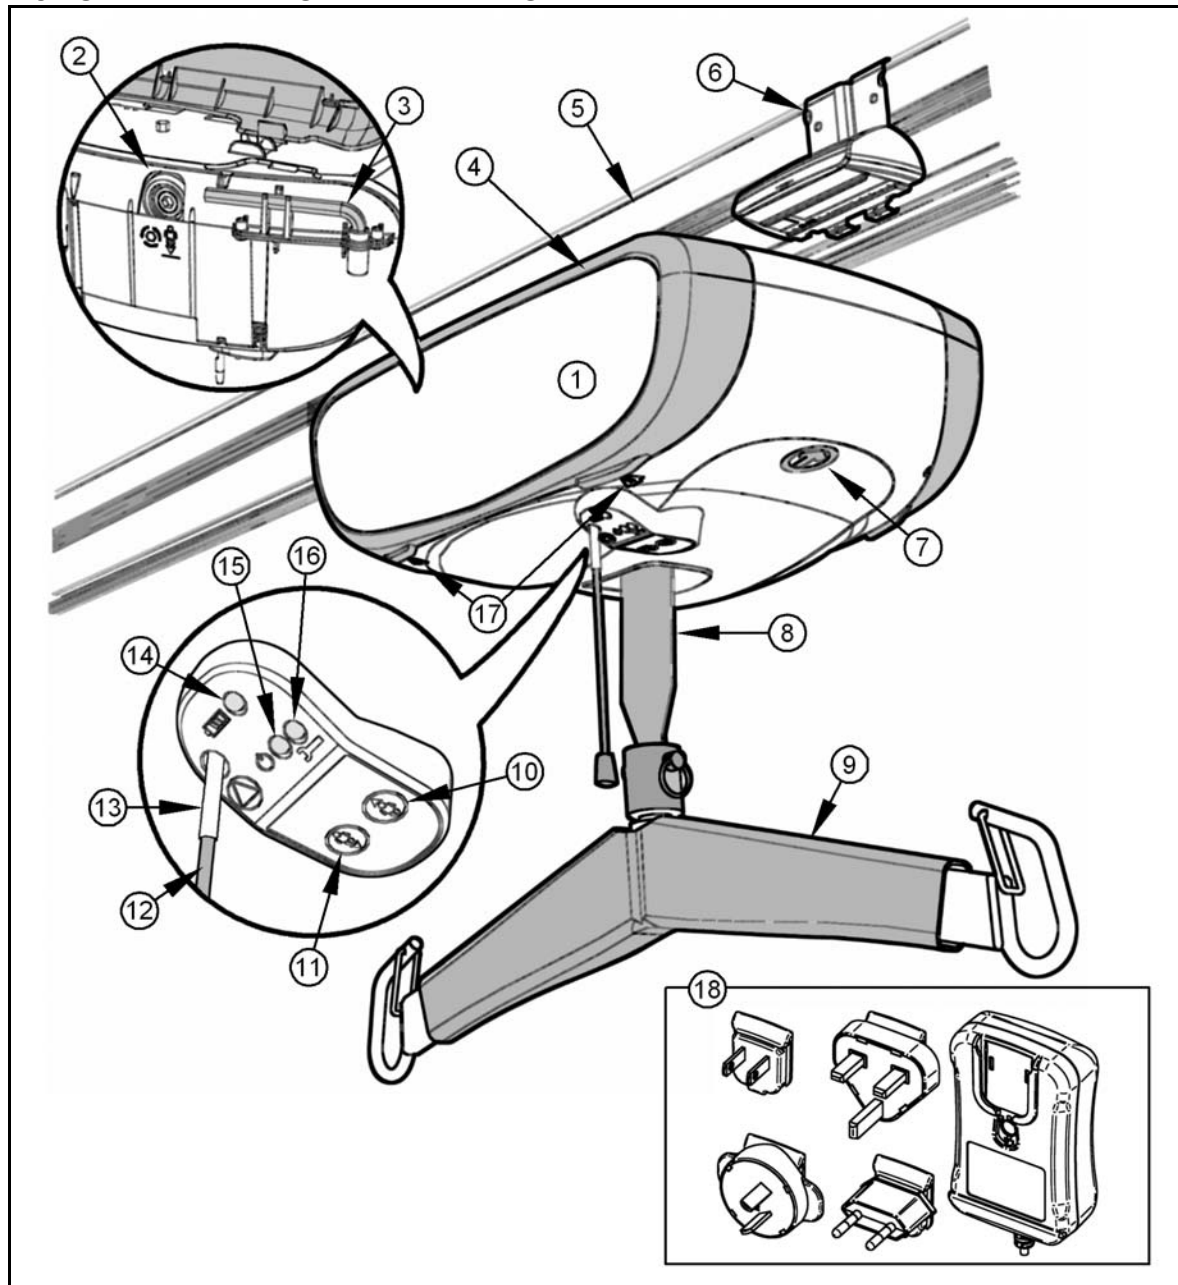

Fig. 4
The following refers to Fig. 4 on previous page:
The Voyager Duo units are equipped with a wall-adapted charger that can be customized to fit the AC voltage outlets where they are sold (see Fig. 4).
- 1) To stop the ceiling lift in any emergency, gently pull the red emergency cord once (see Fig. 4), until you hear a “click”. You will notice that the reset switch’s plastic insert, at the very top of the red cord, has descended. The green power light has also turned off.